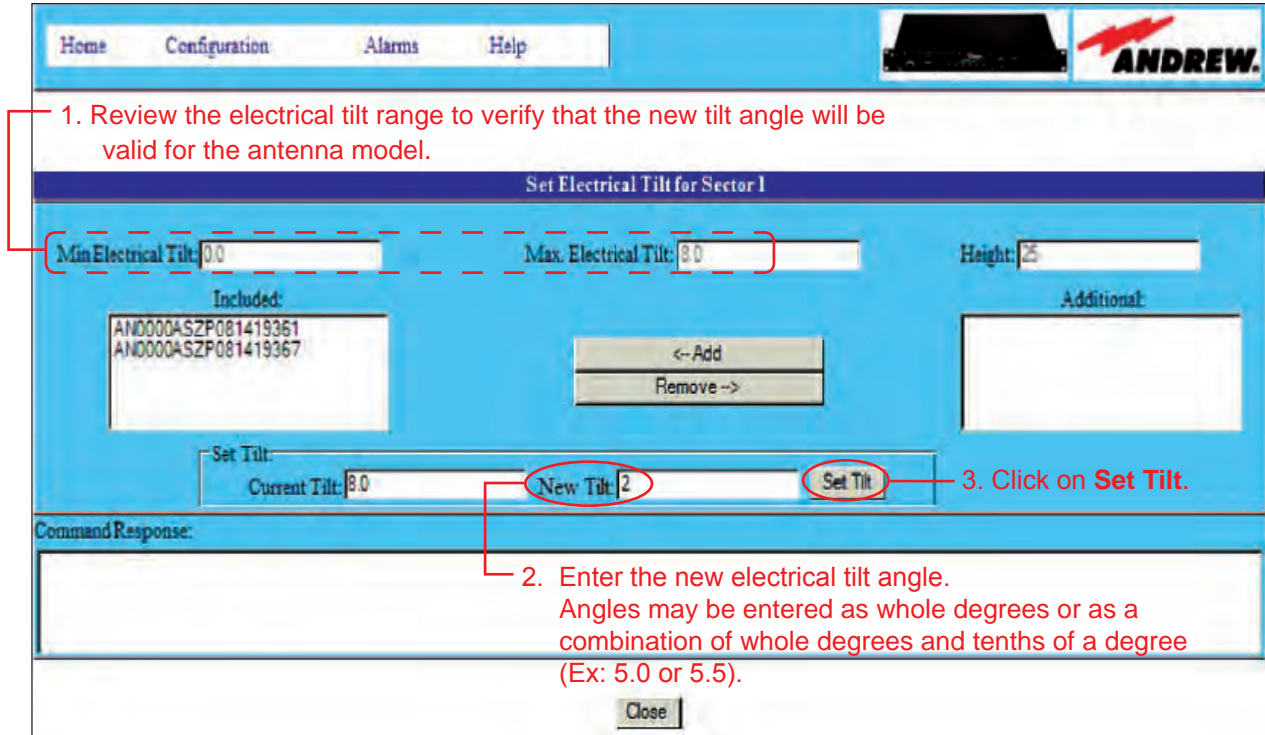
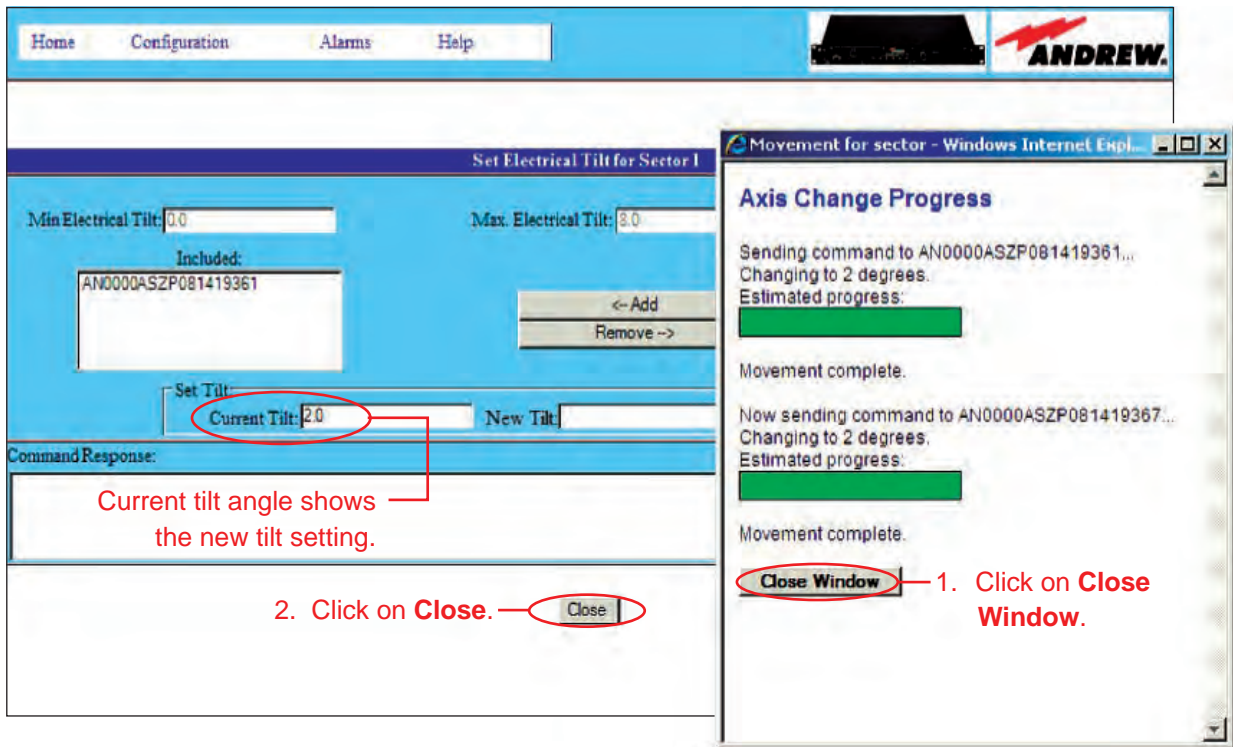

Figure 14-3. Changing Electrical Tilt Setting For Antennas In Sector Move.
Figure 14-4. Tilt Change Is Complete For Sector Move.
5. When satisfied with the list of antennas that will be included in the group move, enter a new downtilt angle in the **New Tilt** text entry field, and click on **Set Tilt** to begin the move (Figure 14-3). Progress for each antenna movement in the group will be displayed separately (Figure 14-4).
6. You will be notified when all antennas have successfully reached the new tilt angle. Click on **Close Window** from the pop-up window (Figure 14-4).
7. The new angle will be displayed in the **Current Tilt** field and the **New Tilt** field will be cleared. If further adjustments are needed, they may be done before exiting this screen. When the desired adjustments are complete, click on **Close** (Figure 14-4) to return to the controller's main interface screen (Figure 14-5).